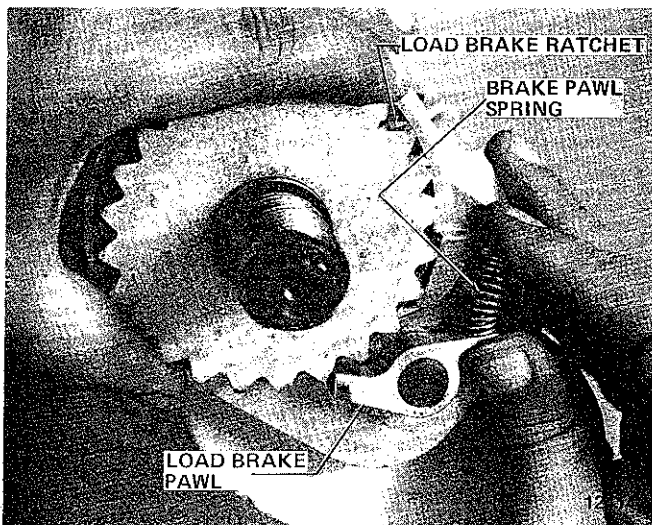

Figure 6-9. Installing Load Brake Ratchet
a. Flange goes on first, then friction washer, then ratchet, then 2nd friction washer. Pawl is then installed last. See Figure 6-9. Attach cover with 3 screws.